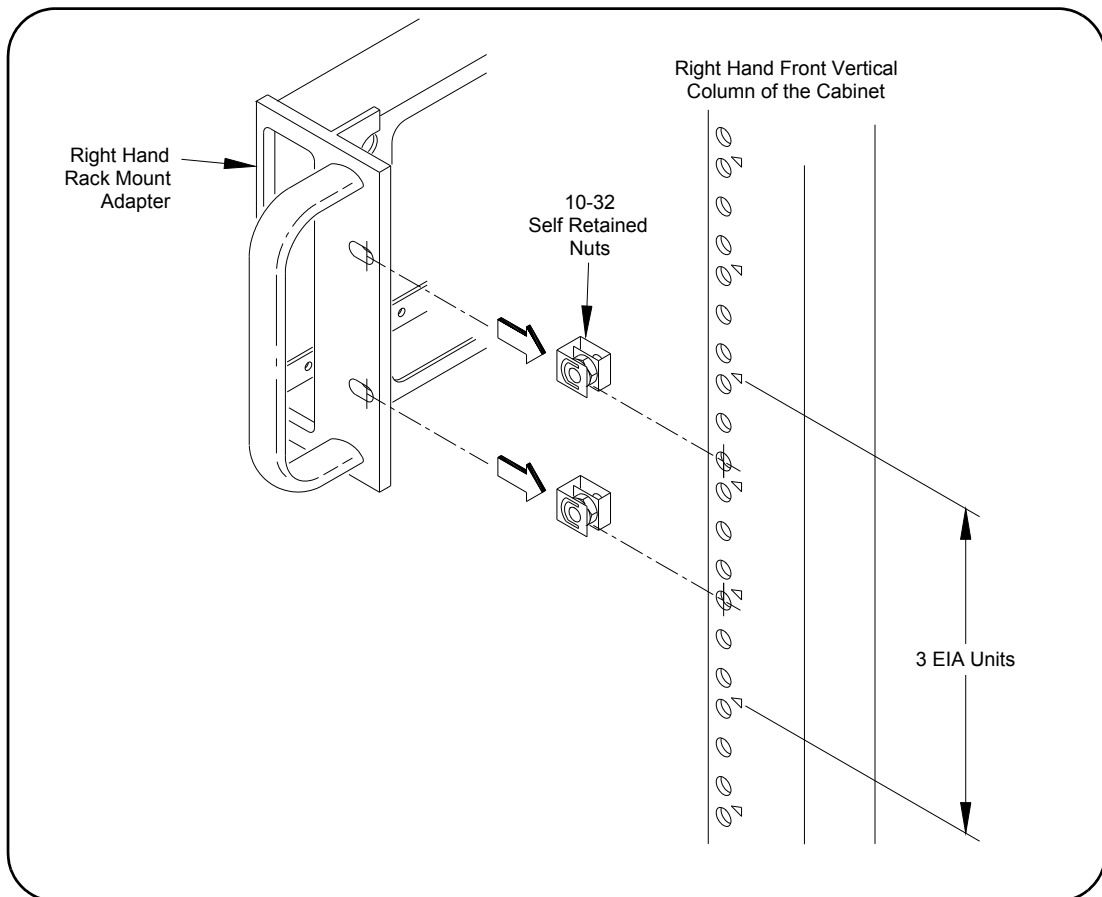

Figure 2-17. Installing Rack Mount Adapter Channel Nuts
## Set Up Rack Cabinet    Install Channel Nuts for Rack Mount Adapters (Figure 2-17)
- 2 Select the holes for the LH and RH Rack Mount Adapters. See Figure 2-17 for the RH Rack Mount Adapter hole locations. (LH Rack Mount Adapter hole locations are the same.)